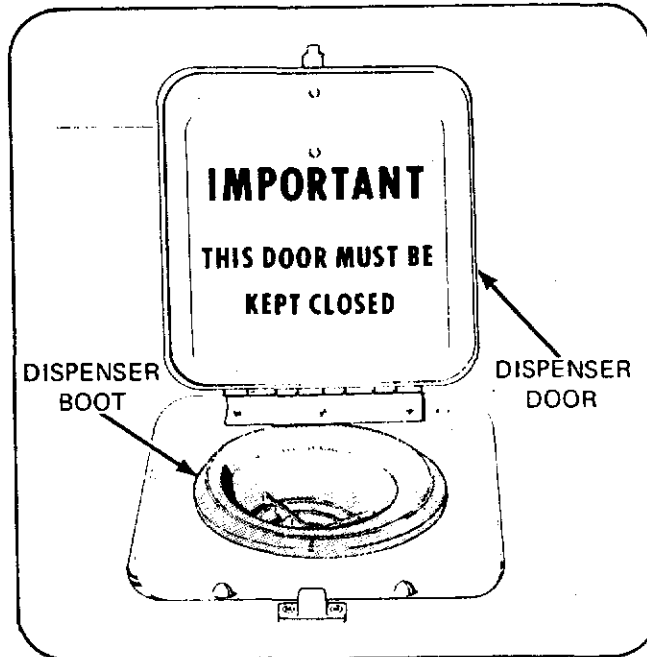

Figure 9
- a. Open dispenser door, *Figure 9*, and check ribs of dispenser boot for detergent build-up. To clean dispenser boot area, fill a small-necked glass jug with the hottest available tap water. Tip jug straight upside-down directly over the dispenser opening allowing the hot water to "glug" out onto the dispenser boot dissolving and washing away crusted detergent.